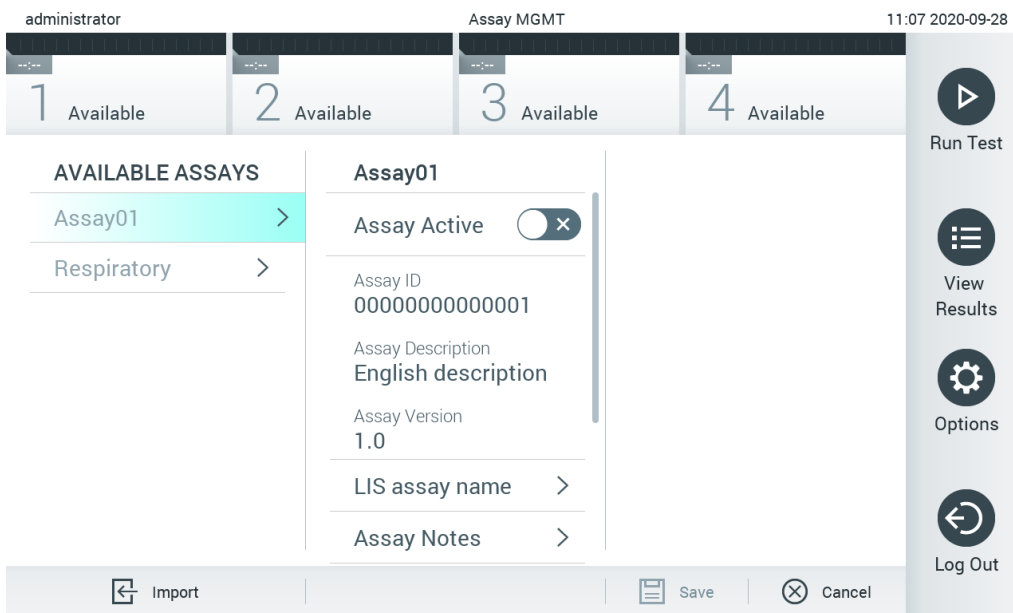

Figure 67. Assay management screen.
2. To import the new assay(s) to the QIAstat-Dx Analyzer 1.0, press **Options > Assay Management**. The Assay Management screen appears in the content area of the display (Figure 67).